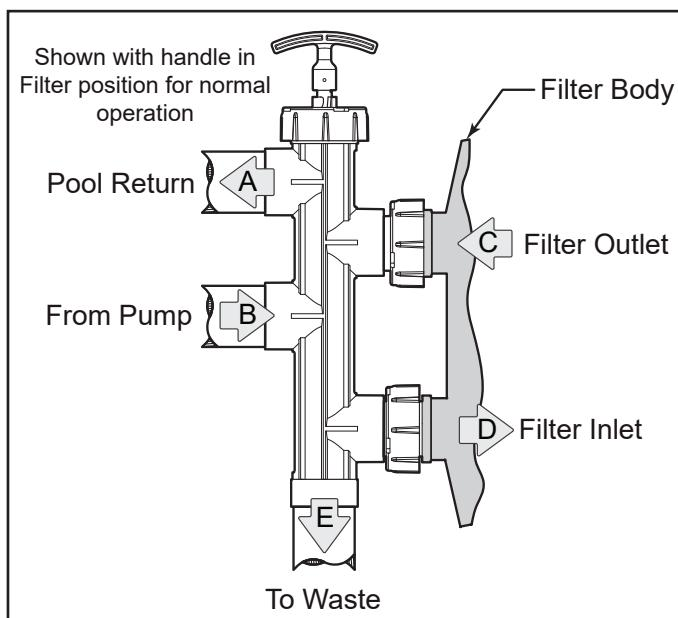

Figure 5. BWVL-SLD Installed
9. Hold the slide valve upright and place onto the filter bulkheads. See Figure 5.
7. Return the slide valve handle to the normal operating position. See Figure 5.